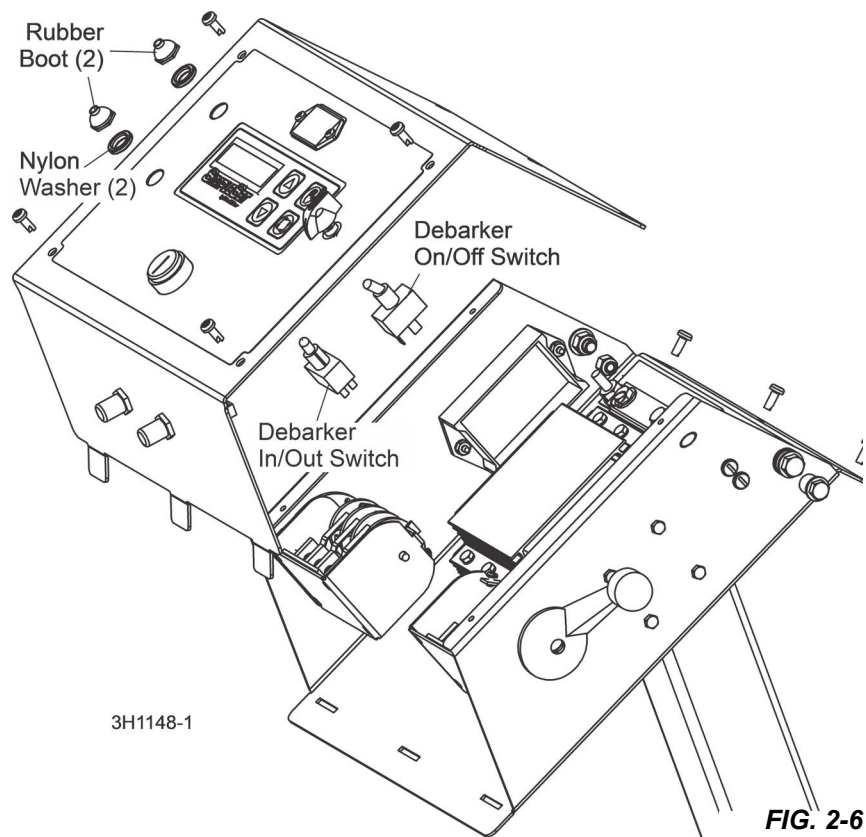

FIG. 2-6
3. Install the provided debarker on/off and in/out switches, 1/16" nylon washers, and rubber boots in place as shown. See Fig. 2-6.